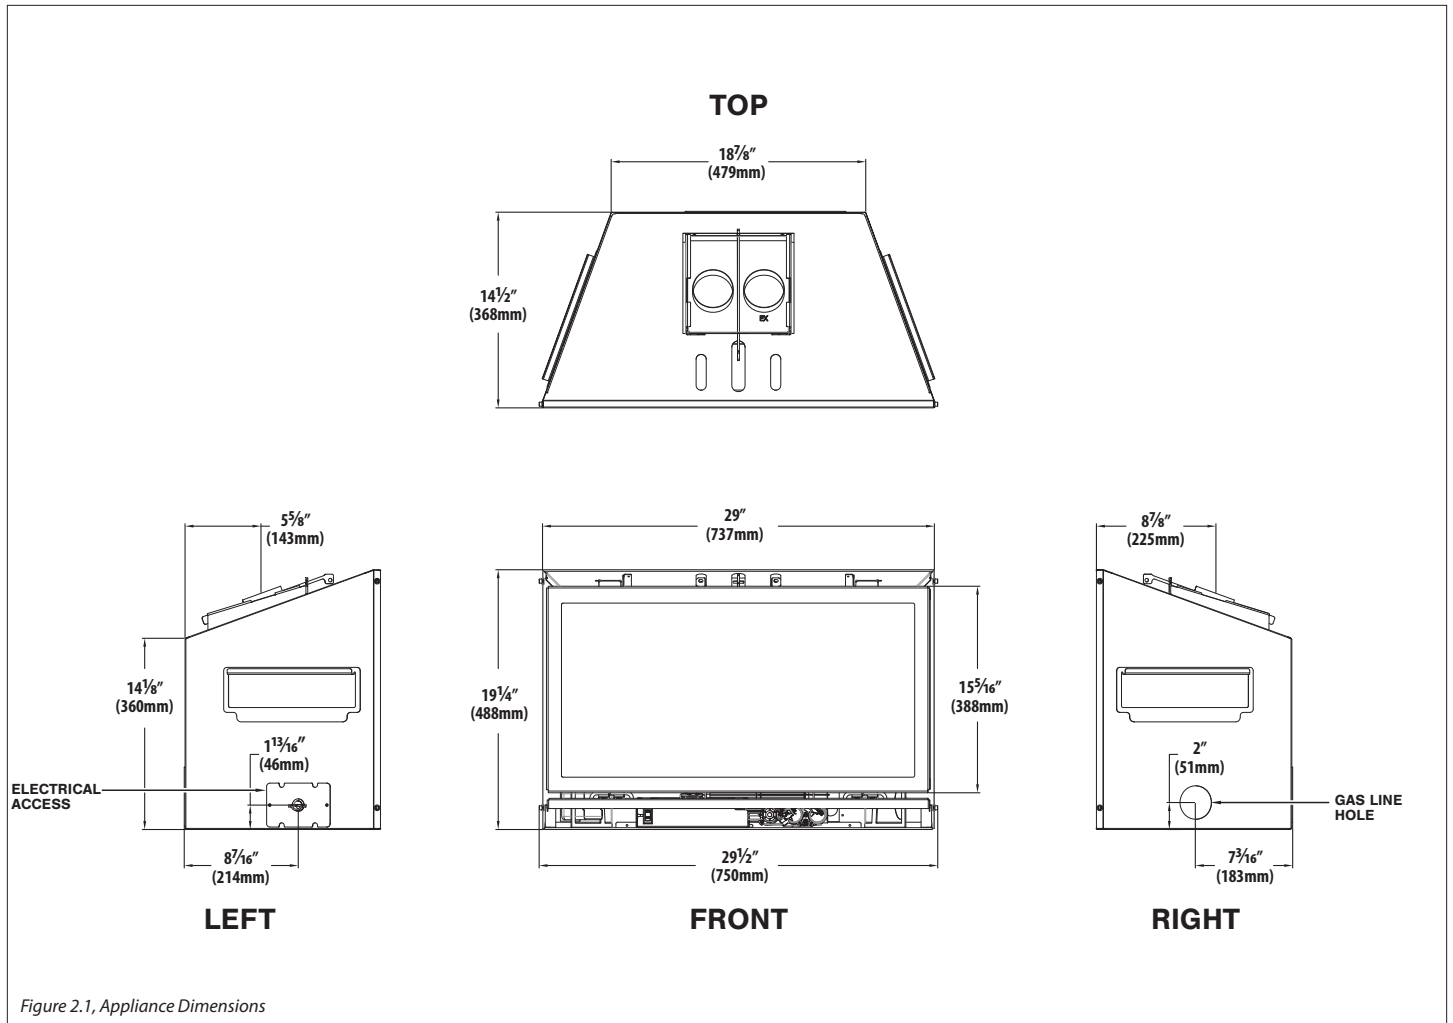

Figure 2.1, Appliance Dimensions
- A gas line must be able to be installed to the fireplace insert. Please refer to Figure 2.1 (pg. 9). The gas line access hole is located on the right side of the insert.
- (A) Height 19-1/4" (489mm)
- (B) Front Width 29-1/2" (749mm)
- (C) Depth 15" (381mm)
- (D) Back Width 18-7/8" (479mm)